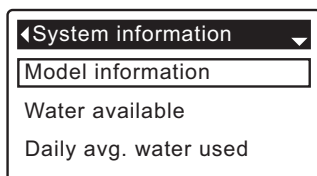

FIG. 59
3. Press the SELECT (O) button to display the System information menu (See Figure 59).
7. When finished viewing an information screen, press the SELECT (O) button. The display will go back to the System information menu (Figure 59). It will also exit automatically if no buttons are pressed for four minutes.